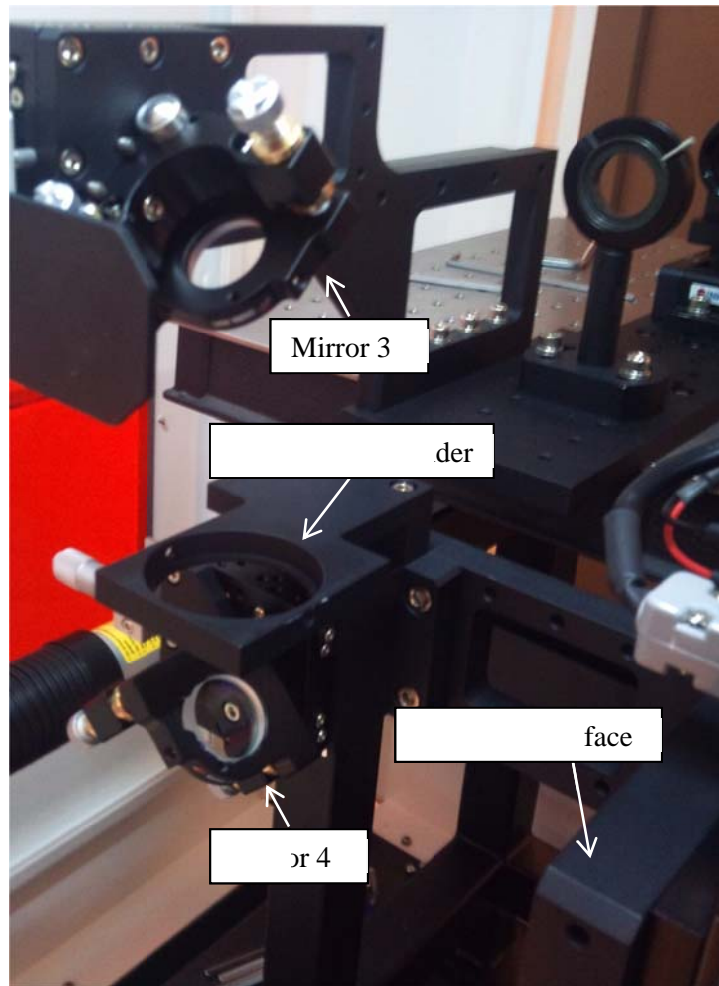

Figure 2: optical system 2nf half
- 5- Adjust mirrors (3) and (4) so that the beam becomes perpendicular to the scanner face Figure 2. In this stage don't use translational degree of freedom and do it with tilting the mirror. To do this first place the mirror on hold (1) you should check the arrow on the side of mirror it doesn't work on both sides. Now adjust mirror (3) so that the reflected beam concur with the incoming beam (Wait! It sounds wrong! Well you are right. I read somewhere in laser head manual that you should never send back the beam to the laser head but that is the way the installers did it. At least try to get over with this process fast). What you should do in this